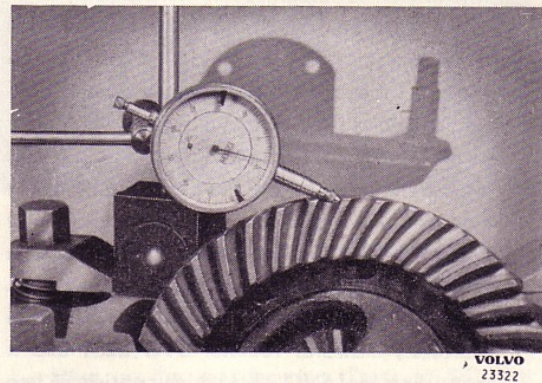

Fig. 29. Measuring the backlash.
13. Measure the backlash as shown in Fig. 29. This should be $0.08 - 0.15 \text{ mm}$ ($0.004 - 0.008''$).
Each time the position of the pinion is altered, the backlash must be adjusted and checked, see Fig. 29.